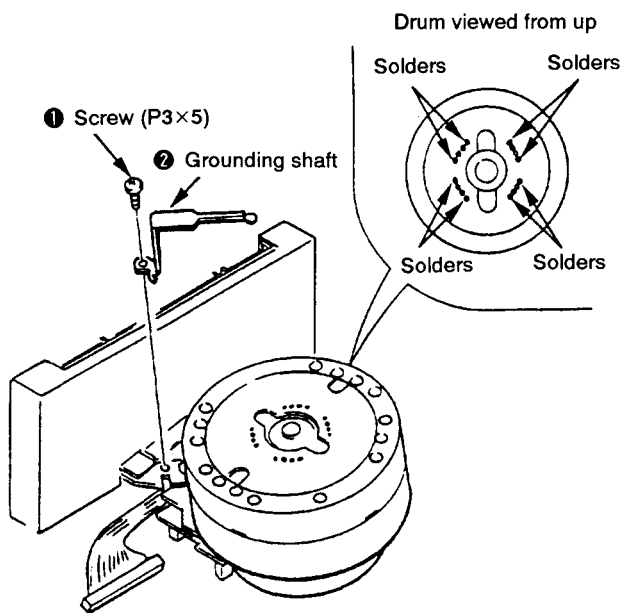

Fig. 4.
- 1) Remove the screw ❶ (P3×5) and take out the grounding shaft ❷. (See Fig. 4.)